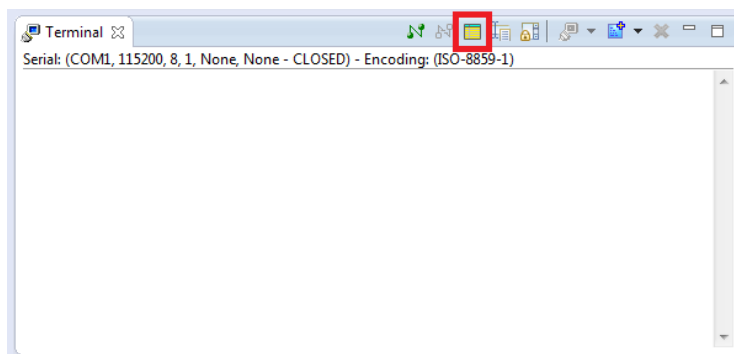

Figure 8-47. ARM DS-5 Serial Terminal
9. We will use the built-in serial terminal available in *ARM DS-5*. Go to “Window > Show View > Other... > Terminal > Terminal” to open *ARM DS-5*’s the built-in serial terminal. You should see the terminal shown in Figure 8-47.